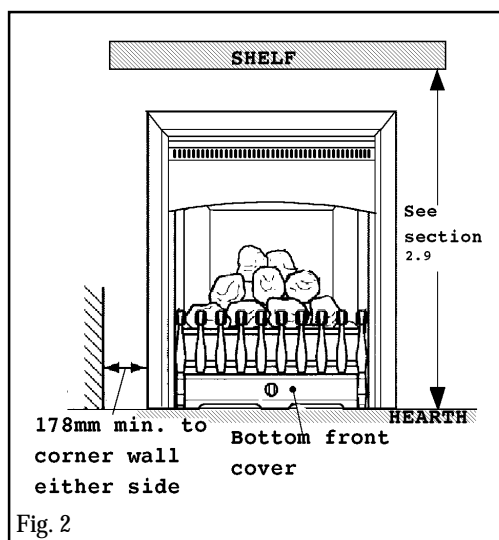

Fig. 2
2.8 The minimum allowable distance from the outside edge of the metal front surround of the appliance to a corner wall having combustible materials is 178mm at either side (see figure 2).